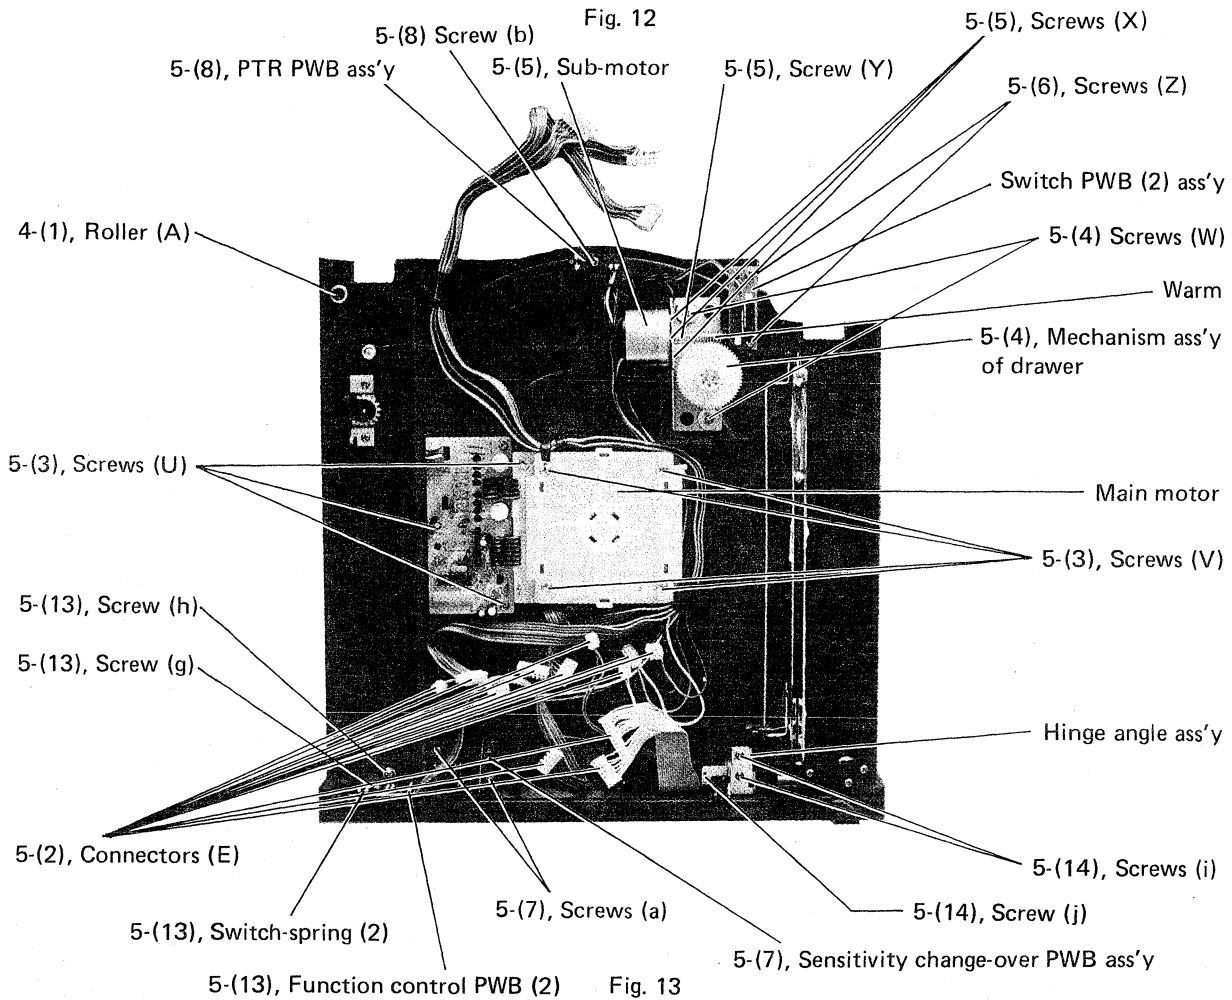

Fig. 13
- 2. Dismount 12 pcs. of connectors (E) from back side of the PWB ass'y so that the circuit (1) PWB ass'y (1) can be dismantled. (See fig. 13)
- (5) Dismount sub-motor. (See fig. 13)
- 1. Remove 3 pcs. of screws (X).
- 2. Remove a set screw (Y) from worm so that the motor can be dismantled.
- (6) Dismount switch PWB ass'y. (See fig. 13)
Remove 2 pcs. of screws (a) from the PWB. (See fig. 13)
- (8) PTR PWB ass'y. (See fig. 13)
- (13) Switch-spring (2) and function control PWB (2) ass'y (See fig. 13)
- (14) Leaf switch ass'y (See fig. 13)